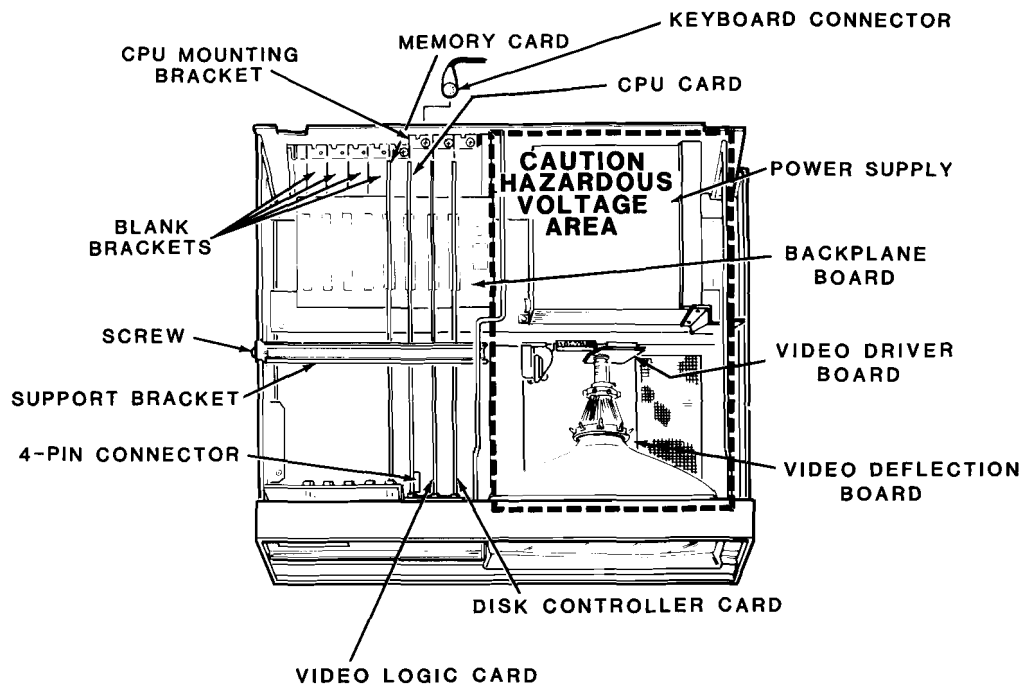
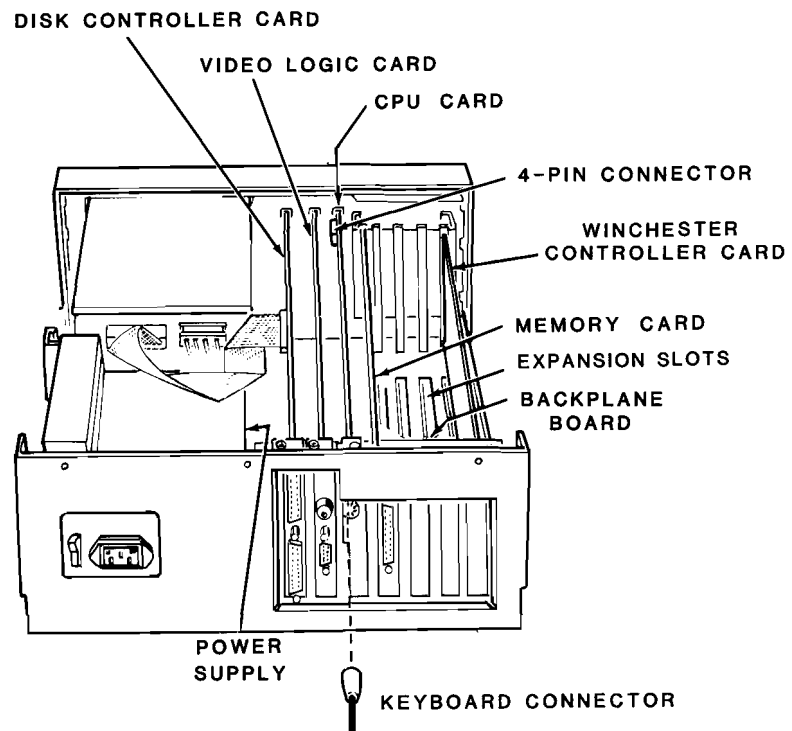

Figure 2.2. Z-160 Chassis
Figure 2.5. Z-150 Chassis
WARNING: When the line cord is connected to an AC outlet, hazardous voltages can be present inside your computer. Be especially cautious of the area marked HAZARDOUS VOLTAGE in Figure 2.2.
- Locate the card support bracket (Figure 2.2) which secures the printed circuit cards. Remove the card support bracket screw and the bracket and set them both aside.
- Locate the CPU card (Figure 2.2 or Figure 2.5).
- Unplug the 4-pin connector from the front of the CPU card (Figure 2.2 or Figure 2.5).
- Remove and save the screw from the CPU mounting bracket (Figure 2.2 or Figure 2.5).
- The new Z-329 Video Card may be installed in any empty backplane expansion slot. Select any available slot (Figure 2.2 or 2.5).